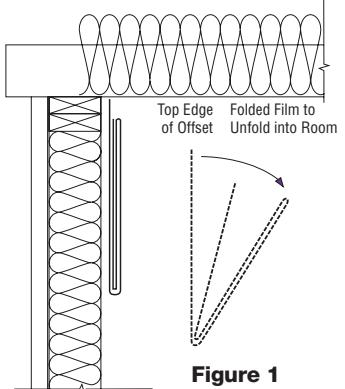

Figure 1
- After stapling to the opposite corner, allow the folded sheet to unfold to the floor (see Figure 1).